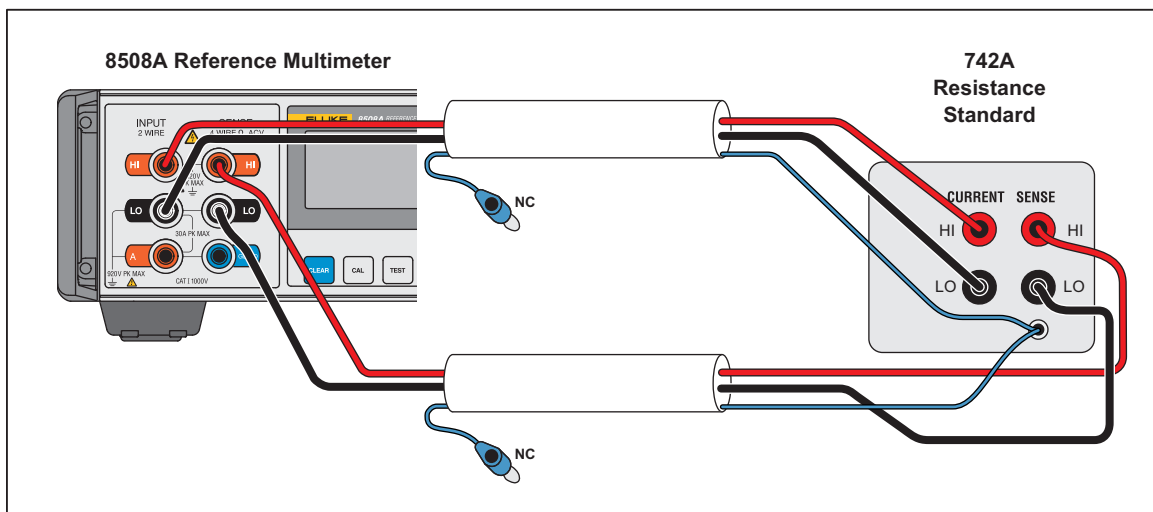

Figure 8. 10 Ω through 19 M Ω Resistance Verification
4. Connect the DMM to the first or next resistance standard (742A) given in Table 6 using the 5730A-7003 cables as shown in Figure 8.